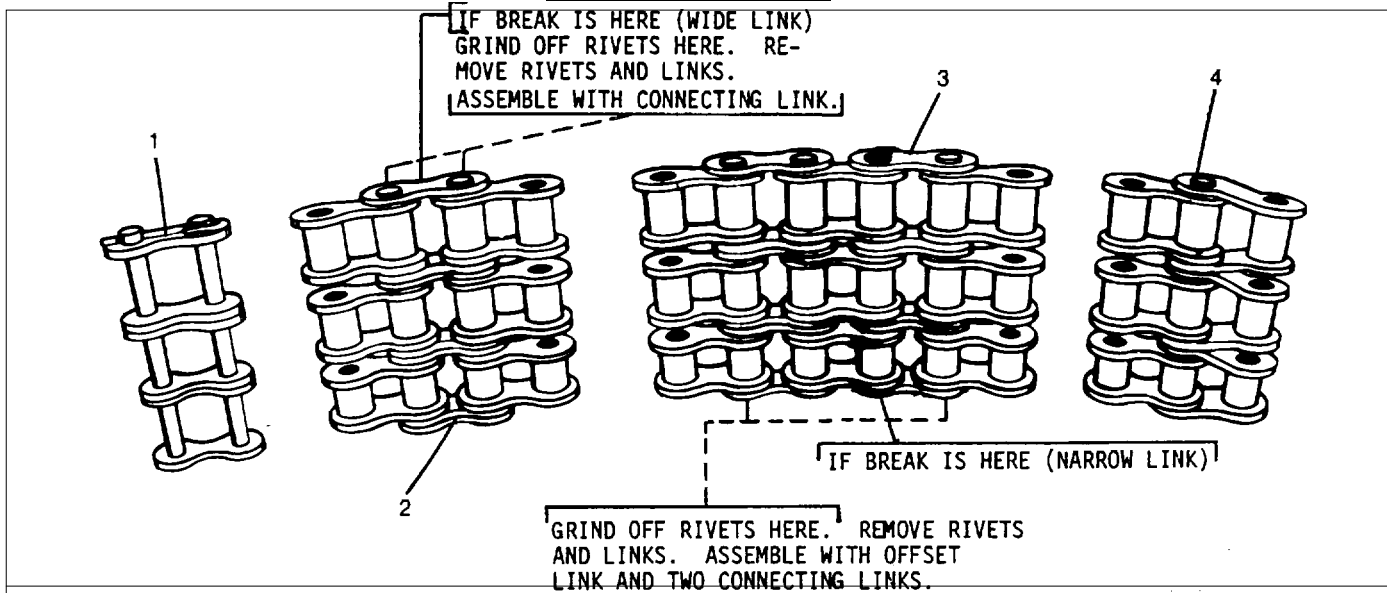

Fig. 3
- (c) Remove the cotter pin from the connecting link. Remove the centering link and afterwards, the drive chain (22).
6.3 Chain Repair: If the chain is broken, it can be repaired with new sections. Refer to Fig. 3.
- (1) Connecting Link
- (2) Three-Pitch Section
- (3) Offset Link
- (4) Five-Pitch Section
- (a) To remove broken links, grind rivet heads on each side of the break. Remove the loose links that were hooked to the rivets. Connect chains with connect links. Connect chain with connecting links (see Fig. 3). To remove broken links on a narrow link, grind rivet heads on outside of each adjacent wide link. Remove rivets. Remove the loose links that were hooked to the rivets. Connect an offset link to the chain with a connecting link. Connect the chain with another connecting link.